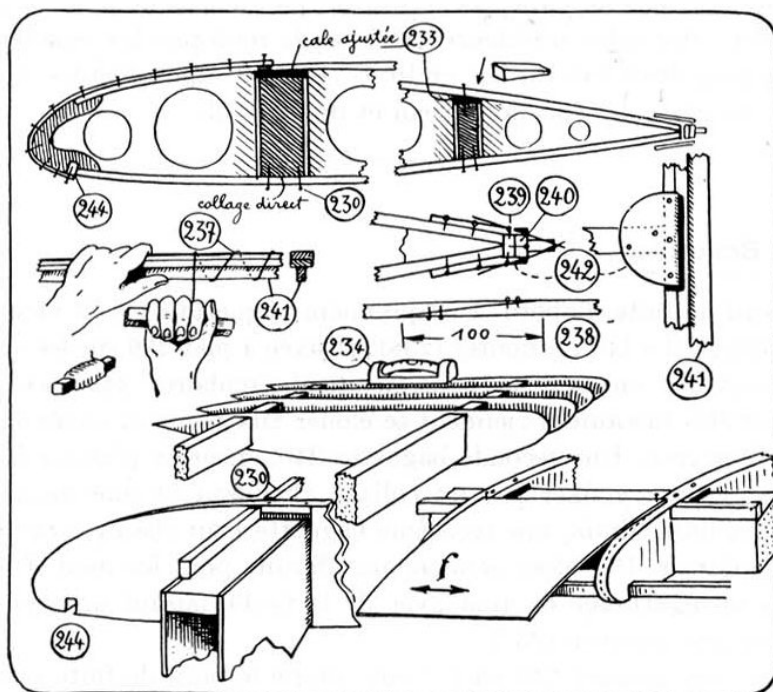

Figure 4.6: Assembling the wings
A 6×12 strip is laid from end to end in the notches (244) cut under the nose of each rib. Pieces of 6×12 strip are then placed on edge (230). This refers to (230) at the bottom of Figure 4.6, not the one at the top. between each pair of ribs along the front of the spar. Then wrap the rounded top of the ribs with 1.5mm plywood, the grain of which should run along the wingspan, gluing from (230) to (244). It is wise to only cover one bay (*i.e.* 300mm) at a time, either butting the plywood sheets at the middle of each rib, which gives 6mm gluing area for each, or by overlapping slightly beveled edges. This covering